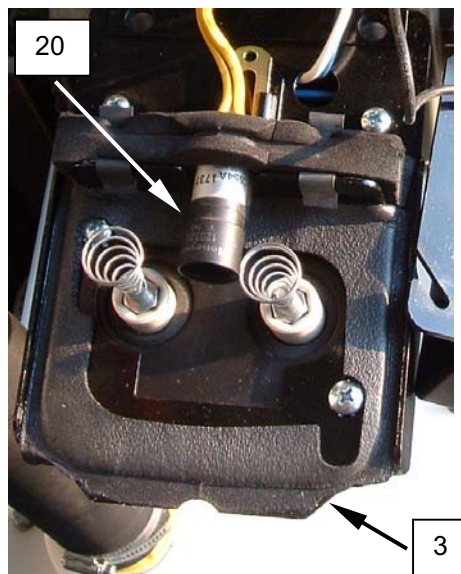

Figure 8. Clean the CAD Cell.
2. Remove the screws retaining the transformer (**Figure 8, Item 3**), and flip the transformer back.
3. Use a rag to clean the lens of the CAD cell (**Figure 8, Item 20**) of soot.
4. Flip the transformer (**Figure 8, Item 3**) back in operating position, and retain with screws.